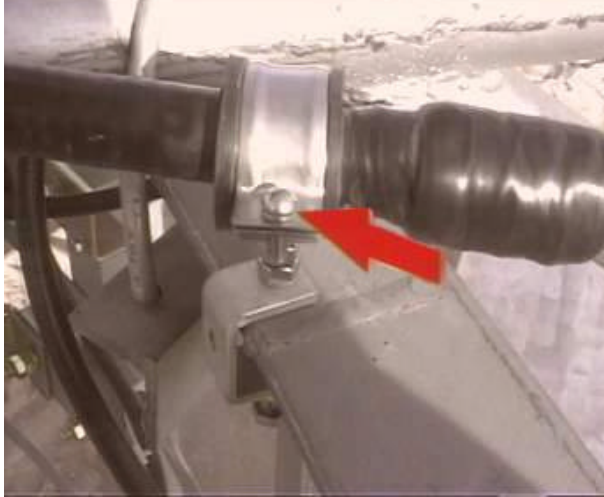

Figure 6-54 Fixing the upper end of the feeder on the tower
- 4) Fix the upper end of the feeder in a proper position by multiple-point fastening lest that the feeder falls from the tower. However, it should not be too close to the antenna or TTA, as shown in Figure 6-54. Based on different fixing requirements, select the 1-for-3 or 1-for-1 fixing clip, as shown in Figure 6-55.